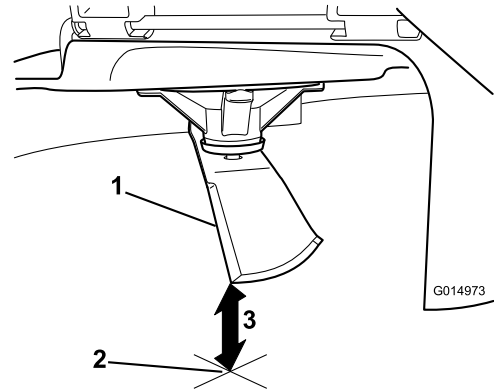

Figure 107
5. Measure from the tip of the blade to the flat surface (Figure 107).